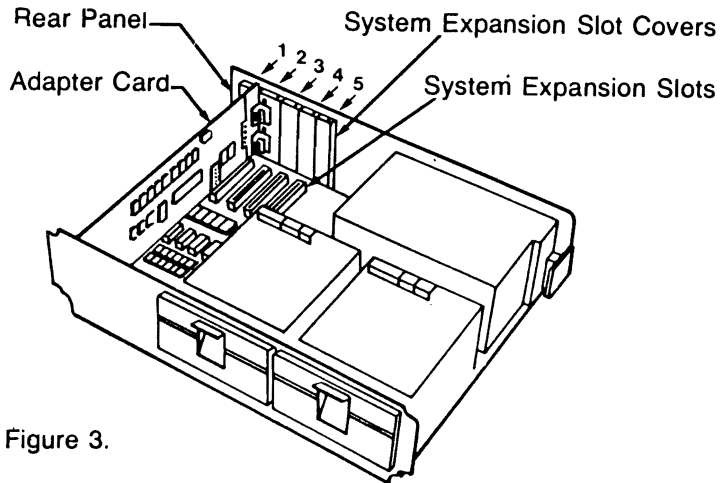

Figure 3.
9. Remove the screw that holds the system expansion slot cover to the rear panel and set it aside. Store the cover for possible later use. Please refer Figure 3. to see the place of covers.